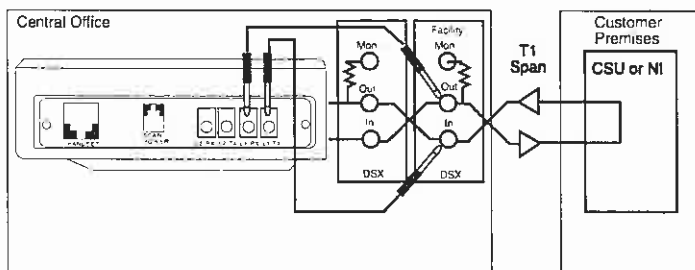

Figure 96 Accepting a New T1 Span
This is the procedure for accepting a new T1 span. Refer to Figure 96, Accept a New T1 Span.
3. Connect the test set to the circuit as shown in Figure 96. Press the HISTORY key on the keypad to clear the blinking history lights.
3. Connect the test set to the circuit as shown in Section 3.1; Figure 96, Accepting a New T1 Span.
1. Set up the test set and circuit as shown in Section 3.1, Figure 96, Accepting a New T1 Span.